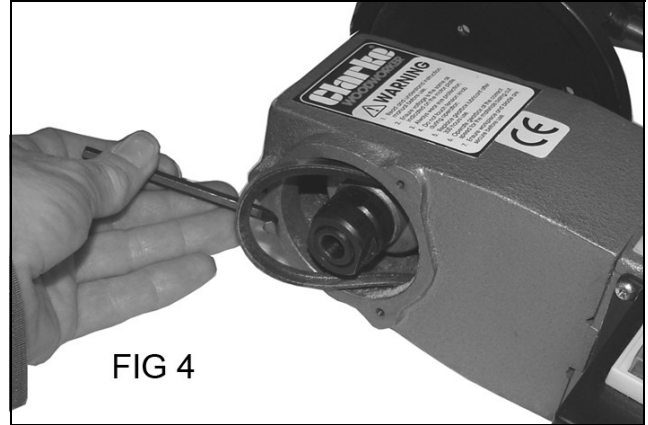

FIG 4
1. Undo the three screws (28) and remove the end cover (27).
2. Using the Hex key supplied, loosen the bolts (39) to enable the motor to move and the drive belt to go slack.
3. Dismount the drive belt from the motor pulley (34) and then lift it off the drive pulley (31) towards you. Use the Hex key to help you as shown in Fig 4. The belt can now be removed from the headstock frame.
4. Replacement is a reversal of the removal procedure. Tension the belt by hinging the motor downwards prior to tightening the bolts (39).